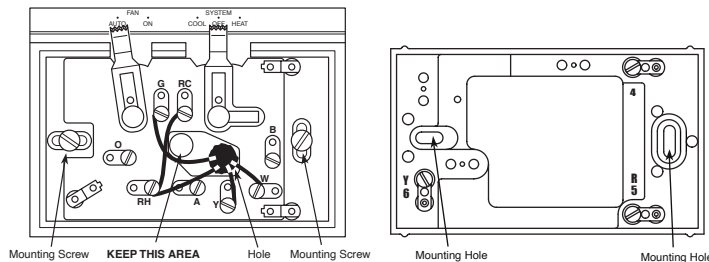

Figure 1. Thermostat subbase and wallplate
- Mount switching subbase:** Use the screws provided to mount the subbase or wallplate to wall (see Fig. 1).
- Mount Thermostat Base:** Gently push excess wire back into the wall opening and plug hole with a fire-resistant material, such as fiberglass insulation to prevent drafts from affecting thermostat operation. Mount the thermostat base to the sub-base using the three captive screws on the thermostat base. (See Fig. 1) Tighten the screws securely. Proceed to Step #5.